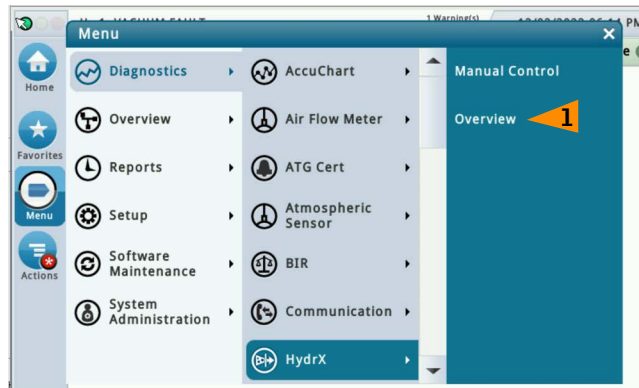
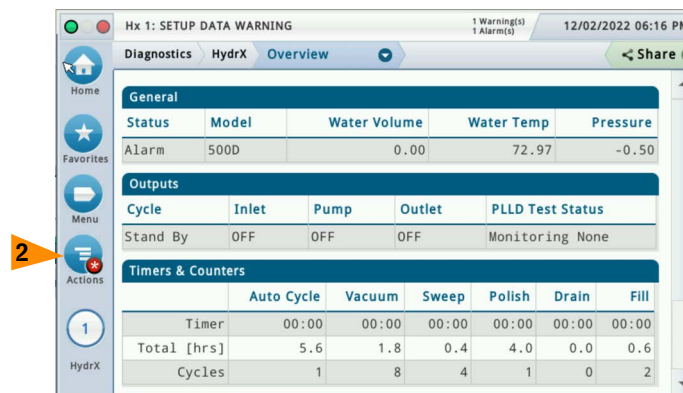

Figure 3. Accessing HydrX Diagnostic Overview Screen
Figure 4. HydrX Diagnostic Overview Screen
1. Touch **Menu>Diagnostics>Hydrx>Overview** (Item 1, Figure 3) to open the HydrX Diagnostic Overview screen (see Figure 4).
2. Touch the **Actions** button (Item 2, Figure 4) to open the HydrX diagnostic service buttons menu. Note: Gray Action buttons are disabled.